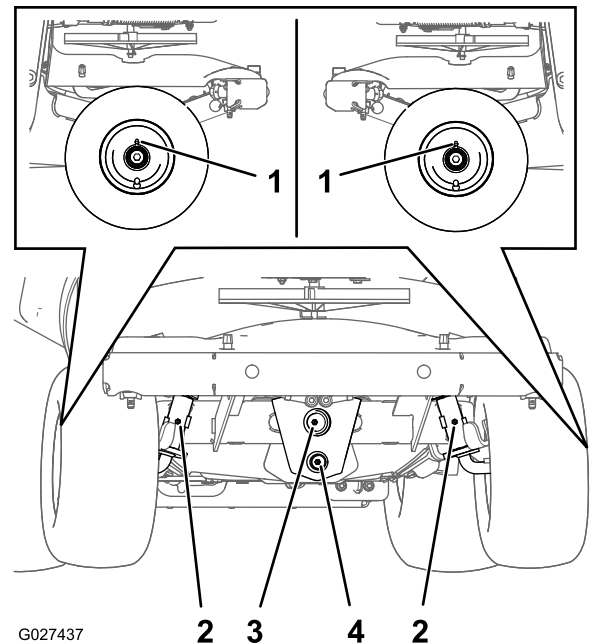

Figure 67
2. Wipe the grease fittings clean with a rag (Figure 67).
3. Connect a grease gun to the fittings (Figure 67).